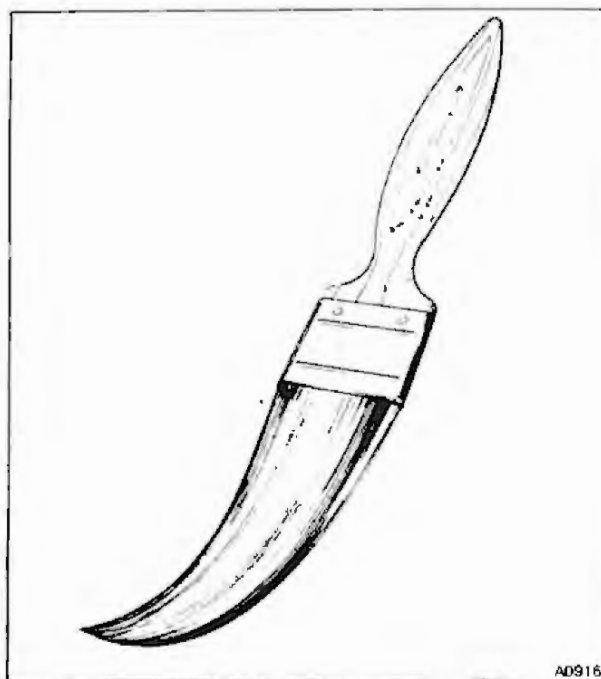

Fig. 4 Typical style of stripping/lining brush
- 2 A suitable striping/coachlining brush (see fig. 4).